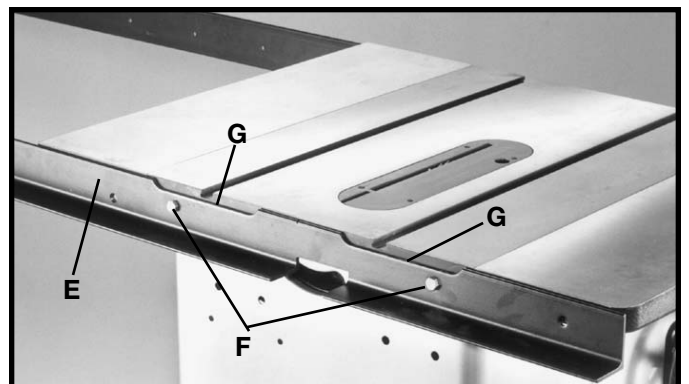

Fig. 95
3. Assemble rear rail (E) Fig. 95, to rear of saw table by placing a lockwasher onto a 3/8-24 x 1-1/4" long hex head screw (F), then place a 7/8" O.D. flat washer onto the hex head screw, and insert the screw through the rail and thread the screw into the tapped hole in the saw.
4. Make certain top edge of rail (E) Fig. 95 is below table surface and that top edge of cut-outs (G) are below miter gage slots before tightening screws (F).